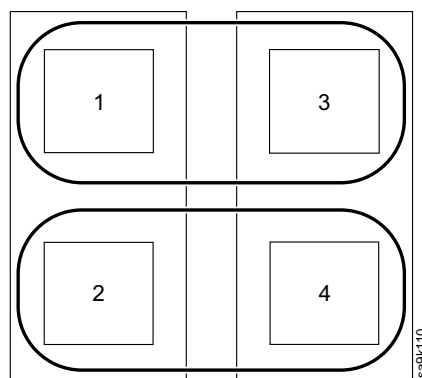

Figure 43. Crossing grid controller adapter ports
- Use both Fibre Channel or iSCSI adapters within each of the grid controllers, as shown in Figure 43.